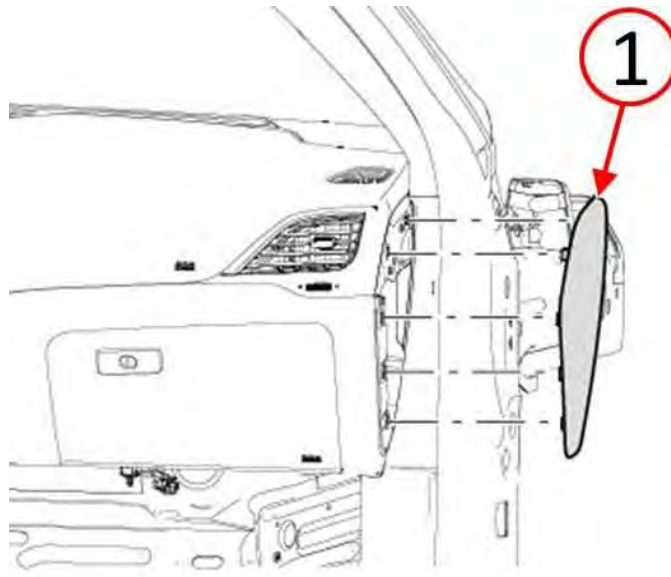

Fig. 3 Remove Right Side Instrument Panel End Cap
2. Using a trim stick or equivalent, release the clips and remove the right side end cap (1) from the instrument panel (Fig. 3).